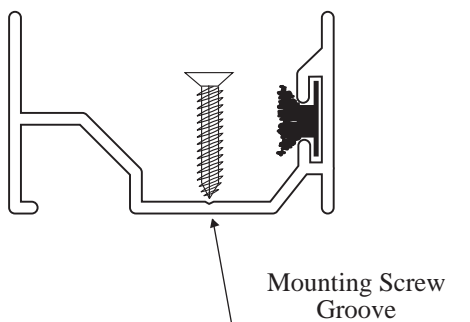
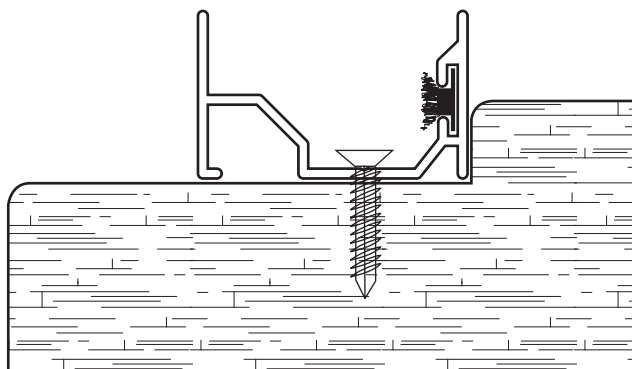

Figure 4
Figure 5
Drill two (2) 3/16" holes in the closer (#R8025), approximately 4" from each end, using the mounting screw groove. (Figure 4). Note: Hole locations may be pre-drilled from the factory. Install the closer using #6 x 1" flat head screws provided in the same position the hinge was installed, in the opposite jamb. Proper positioning of the closer is indicated by the weather-strip towards the door stop and main door (Figure 5). This must be on the same side as the flat of the housing. The closer is notched on both ends to accept the head and still tracks.